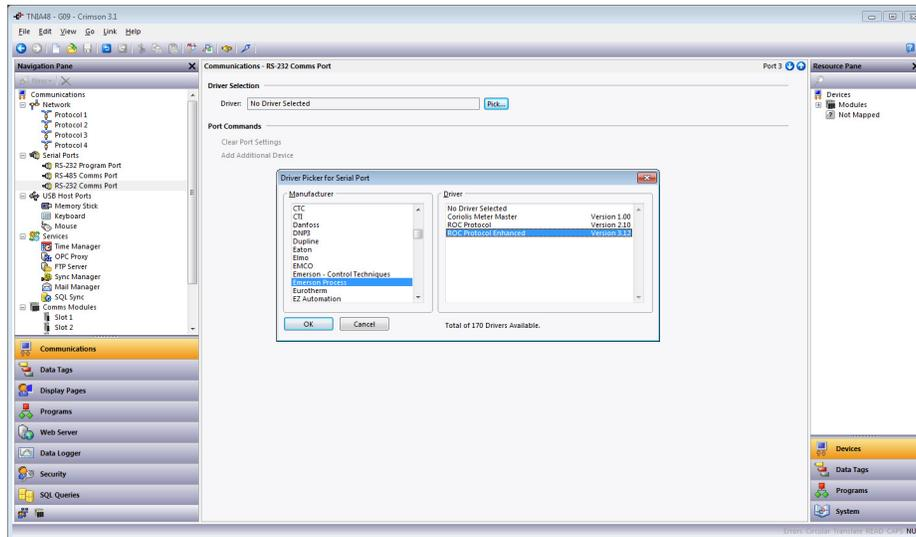

Figure 3.
1. Referring to Figure 3, navigate to the Communications section.